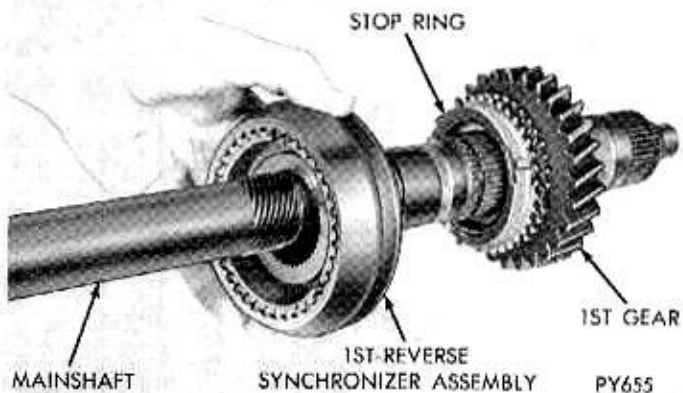

Fig. 22—1st-Reverse Synchronizer Assembly—Removal or Installation
(9) Slide 1st-Reverse synchronizer assembly off splines and remove from mainshaft (Fig. 22).
(15) Slide 1st-Reverse synchronizer assembly over mainshaft, indexing the hub slots to 1st gear stop ring lugs (Fig. 22).